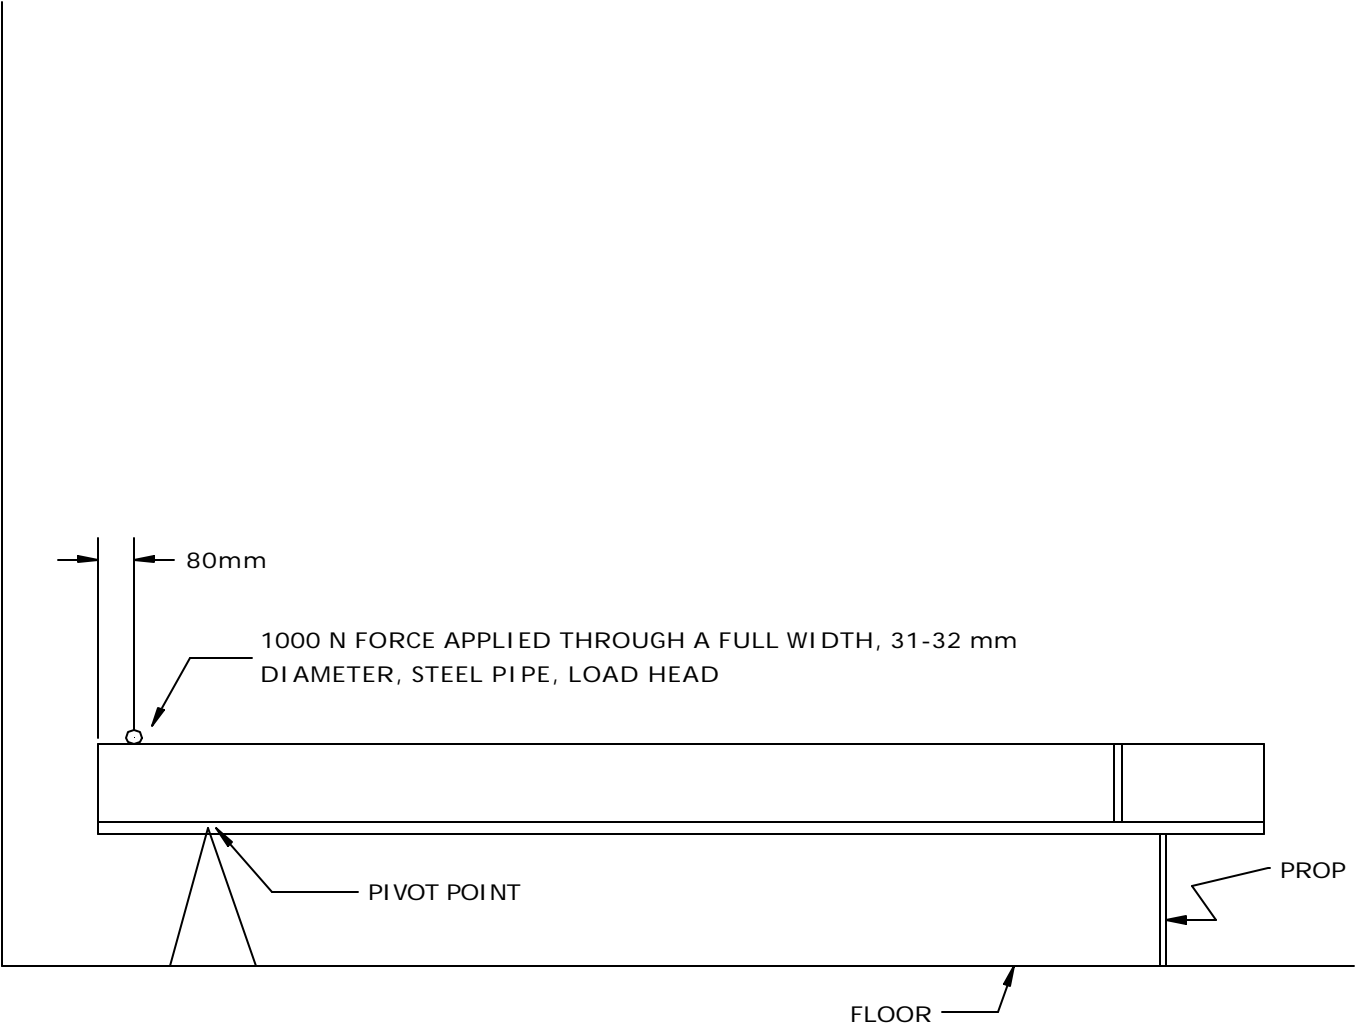

FIGURE 1
B. Stability Test. (See figure 1.) Test is applicable to **TWIN SIZE** wall bed models where the location of the bed pivot point is **not** behind the bed frame (space exists between bed pivot point and headboard).